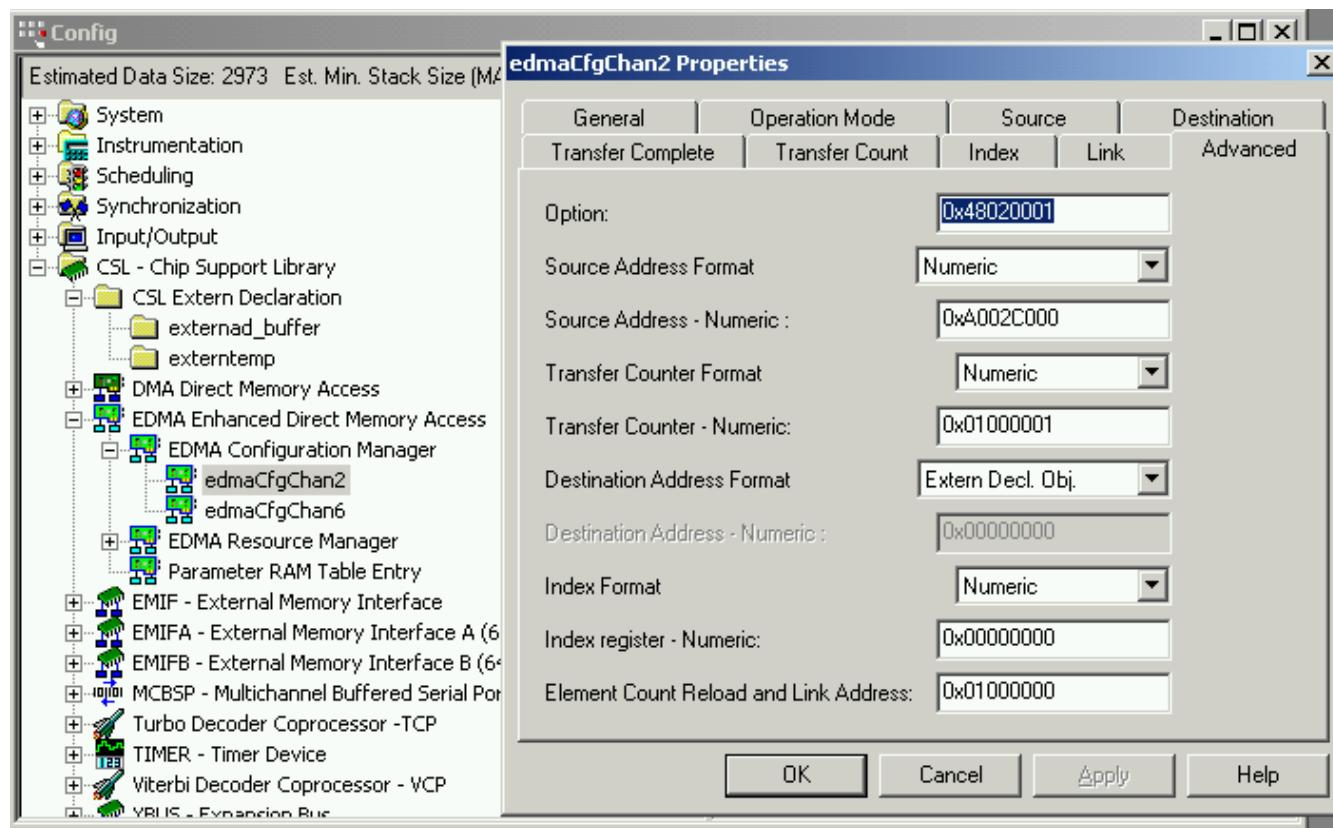

Figure 10. EDMA Chan2 Advanced Tab Options
8. The Advanced tab should look like Figure 10. CONVST pulse is mapped in address 0xA002C000. The 16-bit data is stored in an externally declared object *temp*.